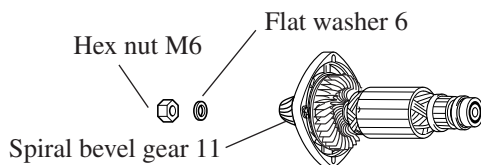

Fig. 2
- (3) Detach hex nut M6 and flat washer 6 from armature as illustrated in Fig.2.